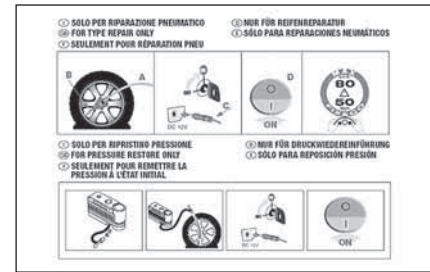

fig. 4
- instruction brochure **fig. 4**, to be used for prompt and proper use of the quick repair kit and to be then handed to the personnel charged with handling the treated tyre;